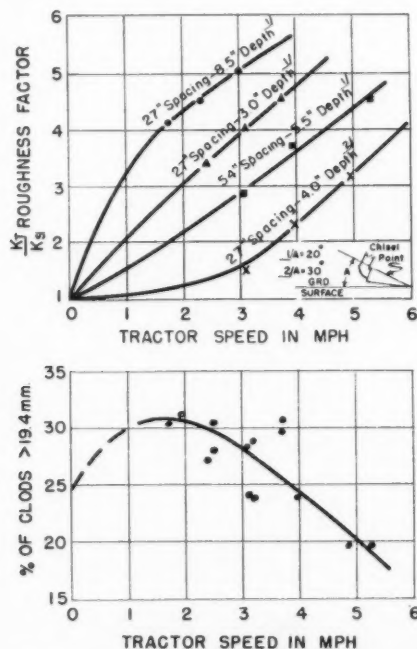

Fig. 3 The influence of speed of travel on surface roughness and soil cloddiness. Data from an emergency tillage experiment where the land was chiseled.
Speed of operation of the tillage tool has a very significant effect on how well a given tool meets the requirements for effective wind-erosion control. In the type of agriculture practiced in the Great Plains today, speed is a necessity in many cases in order to cover the land. This is particularly true in the emergency tillage operation. It is, therefore, difficult to prescribe a speed which will permit completion of the operation in the allowed time and still do an adequate job. The speed of travel affects all three of the major variables, *i.e.*, roughness, residues, and cloddiness. Both the degree of burial and anchorage of residues can be regulated by speed of travel. Too much speed tends either to bury most of the residue or to throw it on the surface in an unanchored condition. The effect of speed of travel on cloddiness and surface roughness is indicated in Fig. 3. Roughness is plotted as the ratio of  $K_t$ , roughness of tilled surface, to  $K_s$ , roughness of untilled surface. Cloddiness is in terms of the largest size clods as measured by a rotary sieve (4). It is noted that excessive speed breaks down clods but increases roughness. Since it is necessary to have a balance of these two variables, a compromise must be made. In this particular set of tests it was found that a speed of approximately